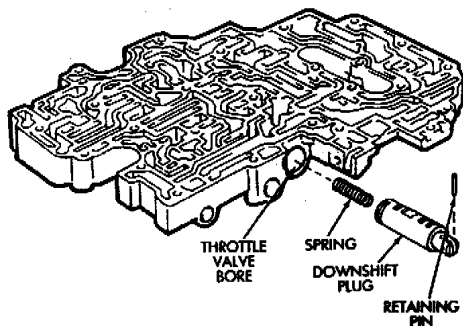

**Fig. 17 Install Throttle Valve Adjusting Rings — If Equipped**
- (12) On models with adjusting rings, turn upper body over and install adjusting rings (Fig. 17). Be sure to install same number of rings as were removed.